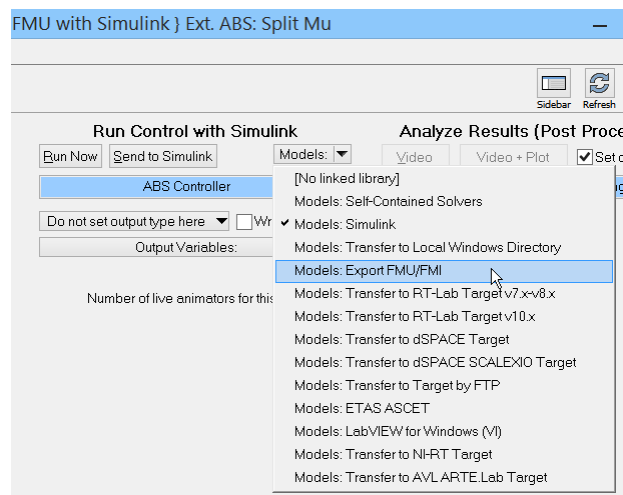

Figure 3. Select “Export FMU/FMI” from the Models drop-down control.
3. From the drop-down **Models** control, select the option **Models: Export FMU/FMI** (Figure 3).